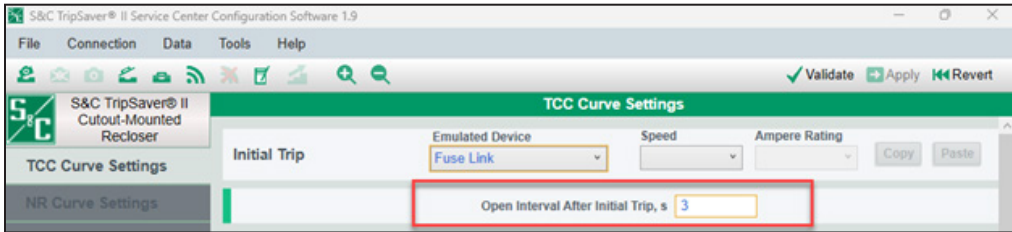

Figure 13. TCC curve screen showing Open Interval setting.
STEP 5. Navigate to the *TCC Curve Settings* screen and check the **Open Interval** setting. See Figure 13.